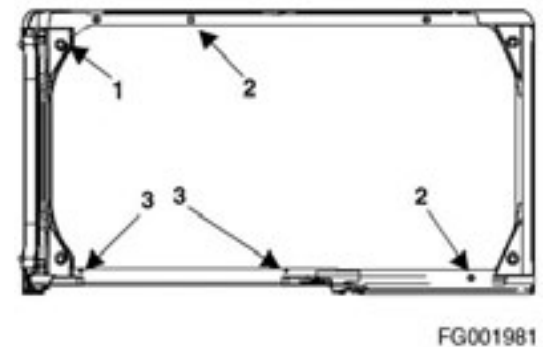

Figure 8
25. Remove four mounting nuts from four corners of cabin floor (1, Figure 8).
26. Remove four M12 hex bolts (2, Figure 8) and two M10 hex bolts (3, Figure 8).